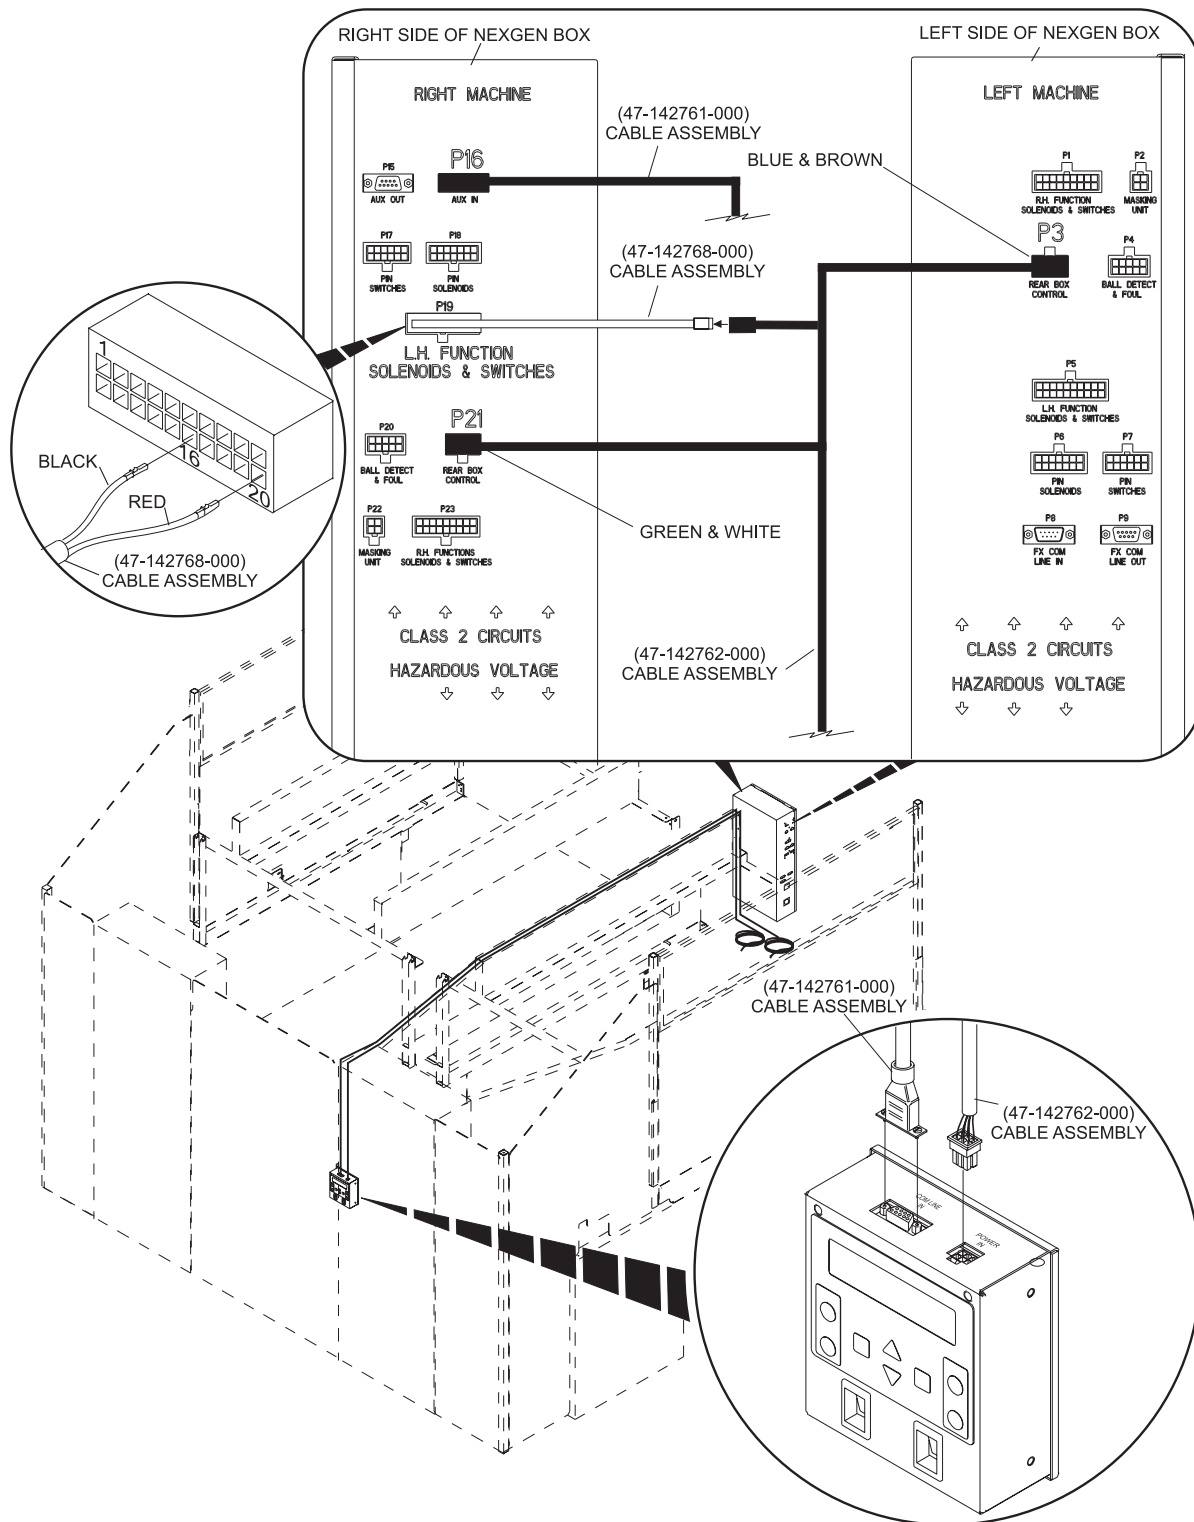

Figure 7
3. Connect cable assembly (P/N 47-142761-000) to "P16" on the Nexgen box and "COMLINE IN" on the remote display. Refer to Figure 7.
4. Connect pins from cable assembly (P/N 47-142768-000) to existing "P19" connector. Refer to Figure 7.
5. Connect multi connector end of cable assembly (P/N 47-142762-000) to "P3", "P21" and cable assembly (P/N 47-142768-000) on the Nexgen box. Refer to Figure 7.
6. Connect single connector end of cable assembly (P/N 47-142762-000) to "POWER IN" on the remote Display box. Refer to Figure 7.